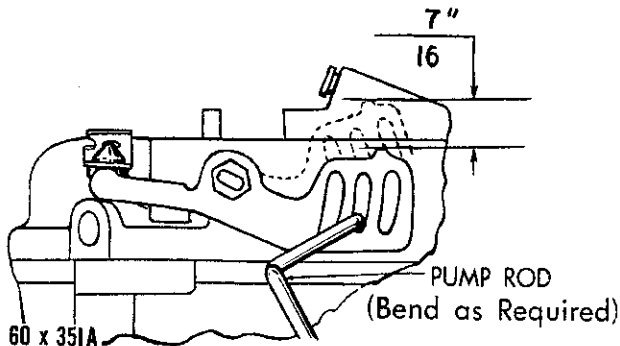

Fig. 24—Accelerator Pump Travel
(2) To adjust, bend the tang on the throttle lever, using Tool T109-214, until correct opening has been obtained.
(3) Hold the choke valve open and then open and close the throttle valves. Failure to obtain full throttle operation indicates improper assembly or wrong adjustment of the choke mechanism.
(4) With the throttle valves held in the open position, open the choke valve slowly to the wide open position. There should be no bind throughout the entire travel of the choke mechanism.
c. Accelerator Pump Travel (Fig. 24)
(1) With the throttle valves fully closed, measure the pump travel from the fully closed to the fully open throttle.
(2) This travel should be $\frac{7}{16}$ inch as shown.